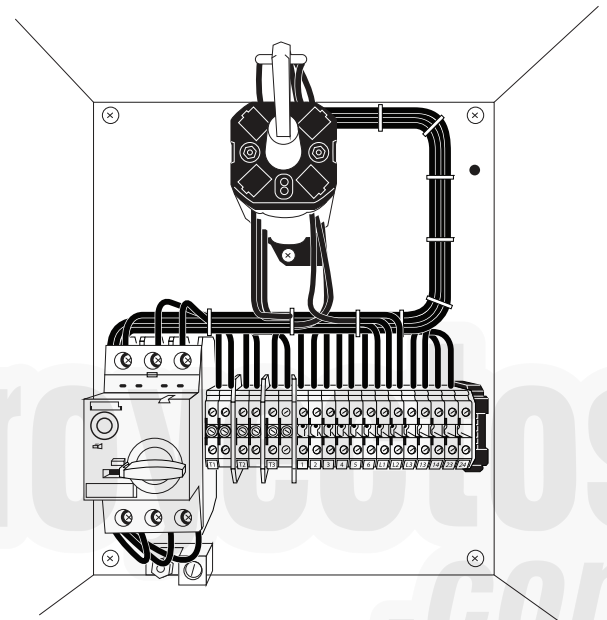

Fig. 120 — MMS on DIN Rail Assembly
2. The MMS is located on the DIN rail assembly. See Fig. 120. Record which wires are connected to the MMS. Then carefully remove the wires from the MMS.